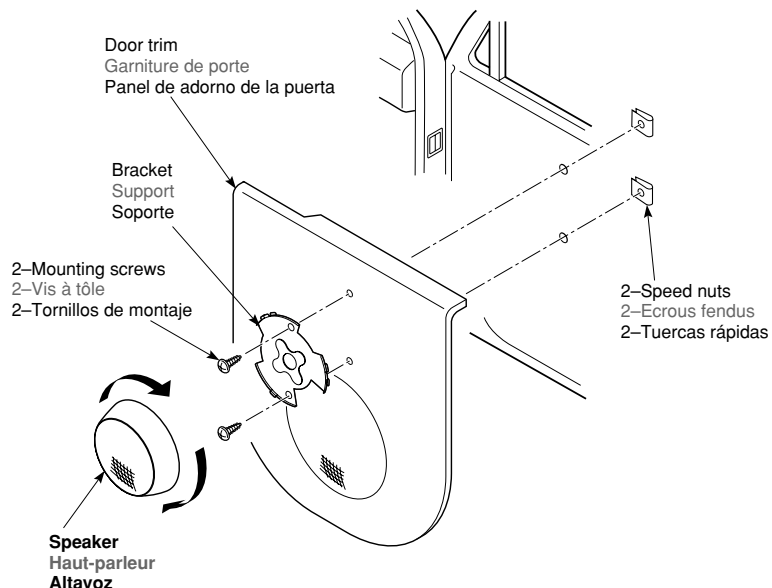

Figure 1 / Figure 1 / Figura 1
2. Install the bracket on the door trim. (Figure 1)
2. Fixez le support sur la garniture de porte. (Figure 1)